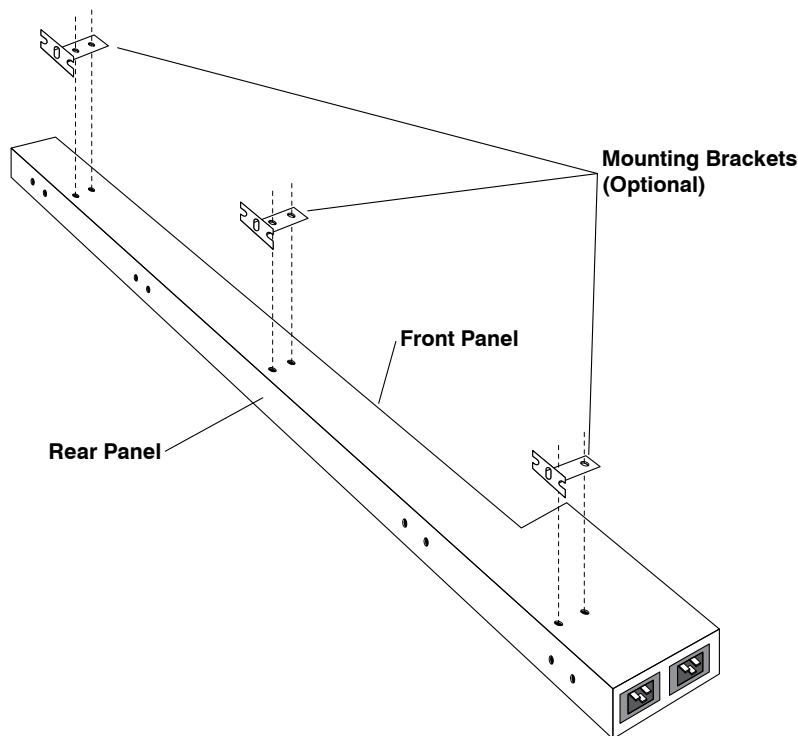

Figure 5: Installing Optional Mounting Brackets (Not Available for PTS Series Units)
1. **Attaching the Mounting Brackets to the NBB:** The Mounting Brackets can be attached to the NBB unit using the three pairs of screw holes on either side of the NBB unit. Use screws supplied with the Mounting Bracket kit to secure three Mounting Brackets on one side of the NBB unit as shown in Figure 5 below.